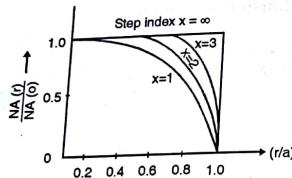

Fig. 5.7.1 : Comparison of the NA for fibres having various (r/a) profile
- From Equation (5.7.1) it is evident that for a graded index fibre NA decreases from axial numerical aperture NA(0) to zero as r increases from zero to core radius a. Fig. 5.7.1 represents NA for graded index fibre for various (r/a) profile.